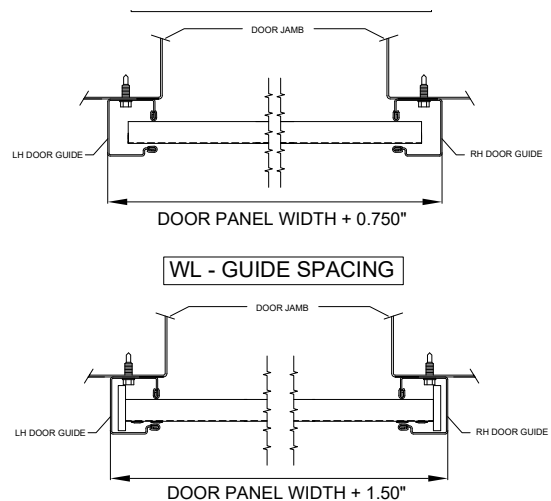

Figure 15.
9.1 To keep the door in the guides during operation the guides need to be set tighter at the bottom versus the rest of the door. Failure to tighten the bottom guides can result in the door pushing out of the opening when closing the door. See Figure 15.